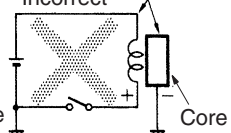

Fig. 4
- (3) Grounding the negative side of the power supply and connecting a switch to that side may cause electrolytic corrosion (see Fig. 4). Therefore, avoid such a practice.